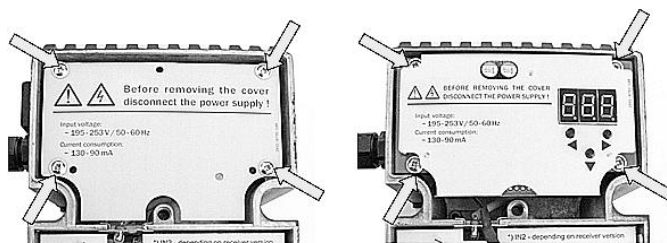

Fig. 8.10. Replacing a fuse in the ORB 729 - step 1.
- remove the four screws attaching the power unit enclosure or the TMM 729 remote monitoring module, depending on factory fitted options - see fig. 8.10,
- Fig. 8.10. Replacing a fuse in the ORB 729 - step 1.